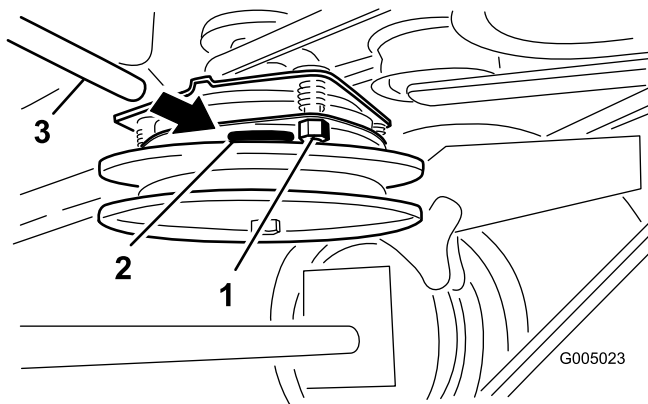

Figure 58
2. Tighten the lock nuts until there is slight binding on the feeler gauge but it can be moved easily within the air gap (Figure 58).